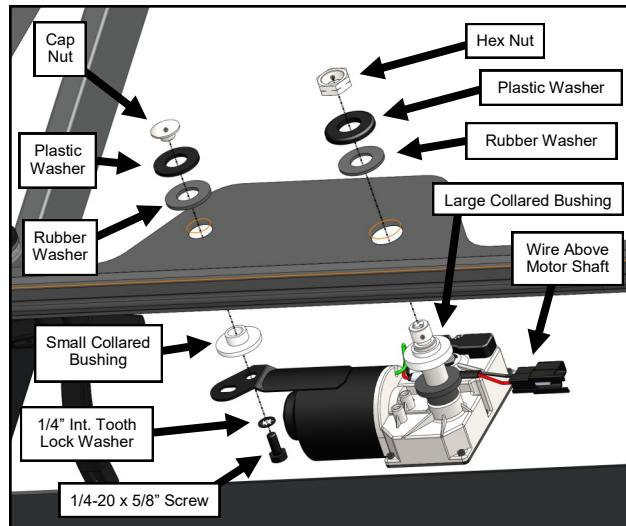

Fig. 11.1 (Wiper Motor)
**11.1** Mount the wiper motor to the windshield. See Figure 11.1. Make sure the wires are above the wiper motor shaft to prevent pinching when the windshield moves.